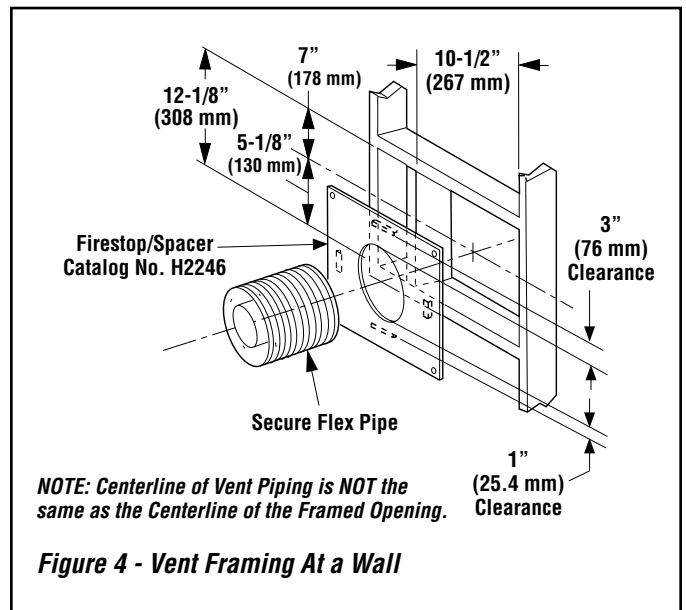

**Figure 2 - Vent Framing At Ceiling**
**Step 2.** Use a plumb line from the ceiling above the appliance to locate center of the vertical run. Cut and frame an opening, 10-1/2" x 10-1/2" (267mm x 267mm) inside dimensions, about this center mark (**Figure 2**). Frame all vent holes with 2" x 4" or larger lumber. Install a firestop/spacer (catalog no. 96K87), shown in **Figure 3**, at ceiling joists. If there is living space above the ceiling level, the firestop/ spacer must be installed on the bottom side of the ceiling as shown in **Figure 8**. If attic space is above the ceiling, the firestop/ spacer must be installed on the top side of the joist.